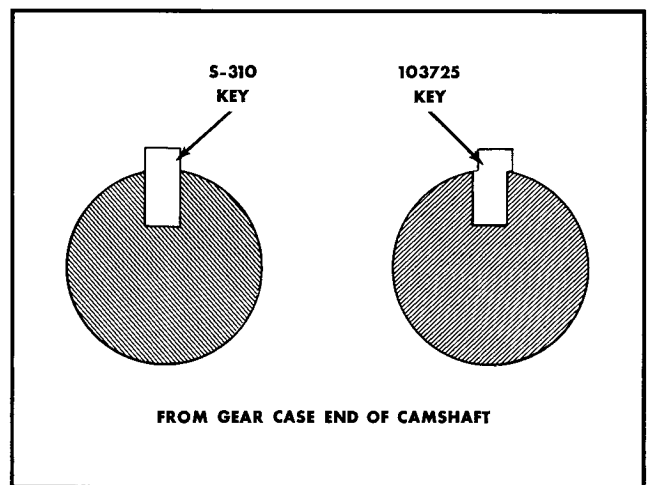

Fig. 2-33. Camshaft gear keys from gear case end
3. Replace key. See Fig. 2-33. Offset key is offset to right looking at camshaft from gear case end.